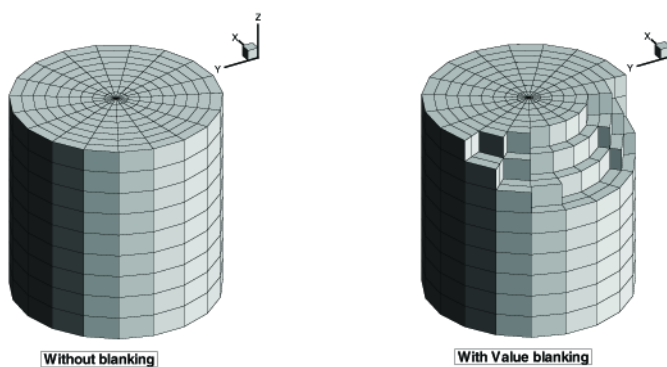

Figure 7-4. Examples of plots where **Surfaces to Plot** has been set to "Exposed Cell Faces" with (left) and without (right) value-blanking.
- **Exposed Cell Faces (default)** - This setting is similar to the "Boundary Cell Faces" setting, unless value blanking is active. When value blanking is used, the outer cell faces between blanked and non-blanked cells and the outer surfaces of the data are drawn. Figure 7-4 shows a plot of a volume zone with Surfaces to Plot set to "Exposed Cell Faces" with and without value blanking. See Chapter 19: "Blanking" for information on working with Blanking.